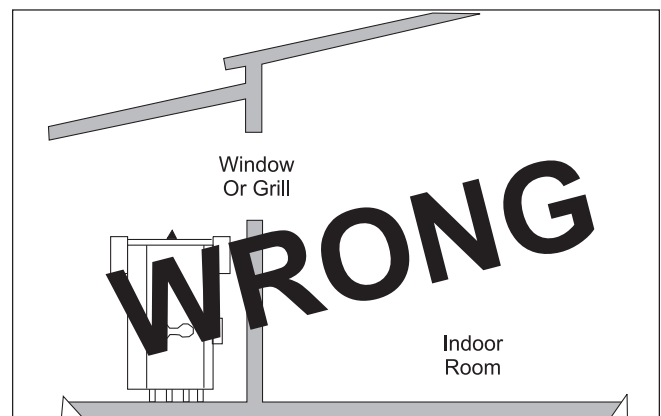

Figure 4. Incorrect Outdoor Installation.
2. Do not locate the boiler in an enclosure or wall recess. Avoid locations where wind deflection off structures might cause down draft. When such wind conditions are possible, locate the unit at least three (3) feet from the structures.
3. Never install the boiler under any kind of roof overhang. Do not locate the unit below or adjacent to any doors, windows, louvers, grills, etc. which communicate in any way with an inhabited area of a building. Even though such communication might be through another structure such as a garage or utility room (see Figure 4).